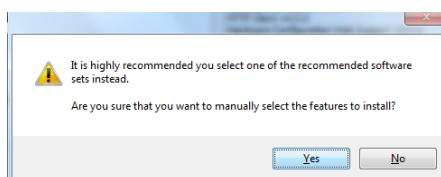

Figure 32: NI MAX - NI Veristand Engine installation 1
3. Ignore the warning, See Figure 32